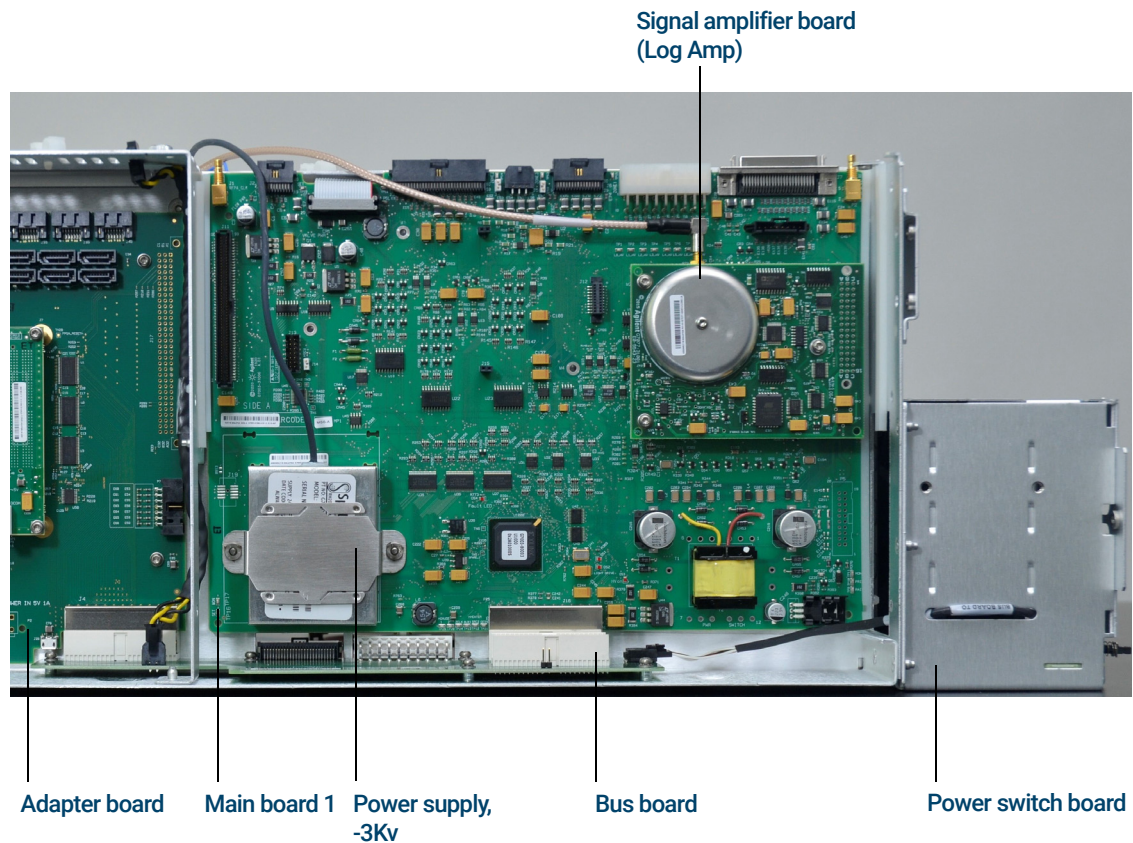

Figure 48. Electronics module, main board 1
- Main Board 1 (See **Figure 48** on page 182.)
- Signal amplifier board (LogAmp) (See **Figure 48** on page 182.)